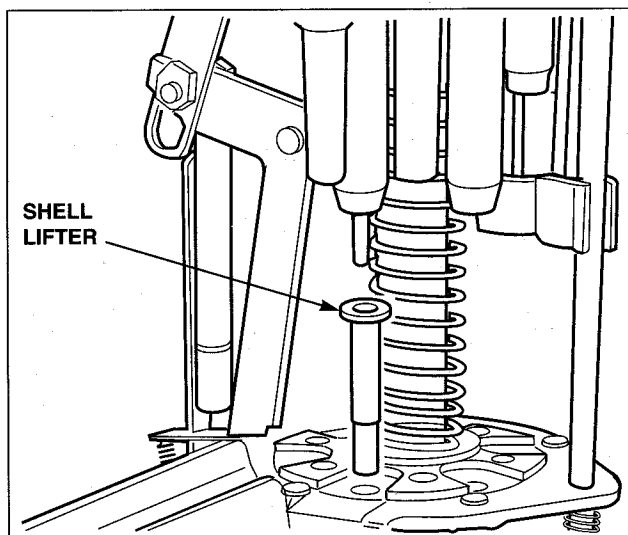

Figure 46
7. Remove the shell lifter from the collet by reaching under the machine and pushing it up with one hand while removing with the other, Figure 46.